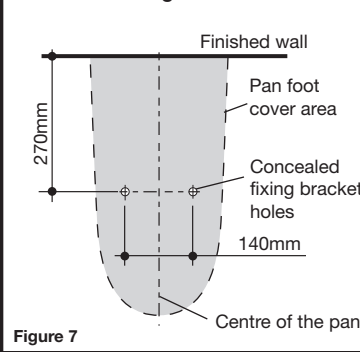

Figure 7
- 1- Locate the D82 Concealed Fixing Brackets (supplied) into position on centre line of pan 270mm from the finished wall and 140mm apart from each other. See **Fig. 7**. Mark bracket fixing hole centres on finished floor. The hole diameter is dependent on the type of fixing system and floor finish.